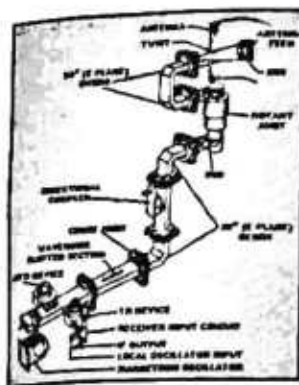

Figure 8 Example of Microwave Circuit using Waveguides
8. Which style of antenna radiates in opposite directions, with a pattern resembling a figure 8?
Waveguides - Waveguides are ideal for microwave transmission. Waveguides are hollow tubes with no center conductor. Waveguide circuits are often referred to as "plumbing" by technicians. Figure 8 illustrates a basic microwave circuit using waveguides.